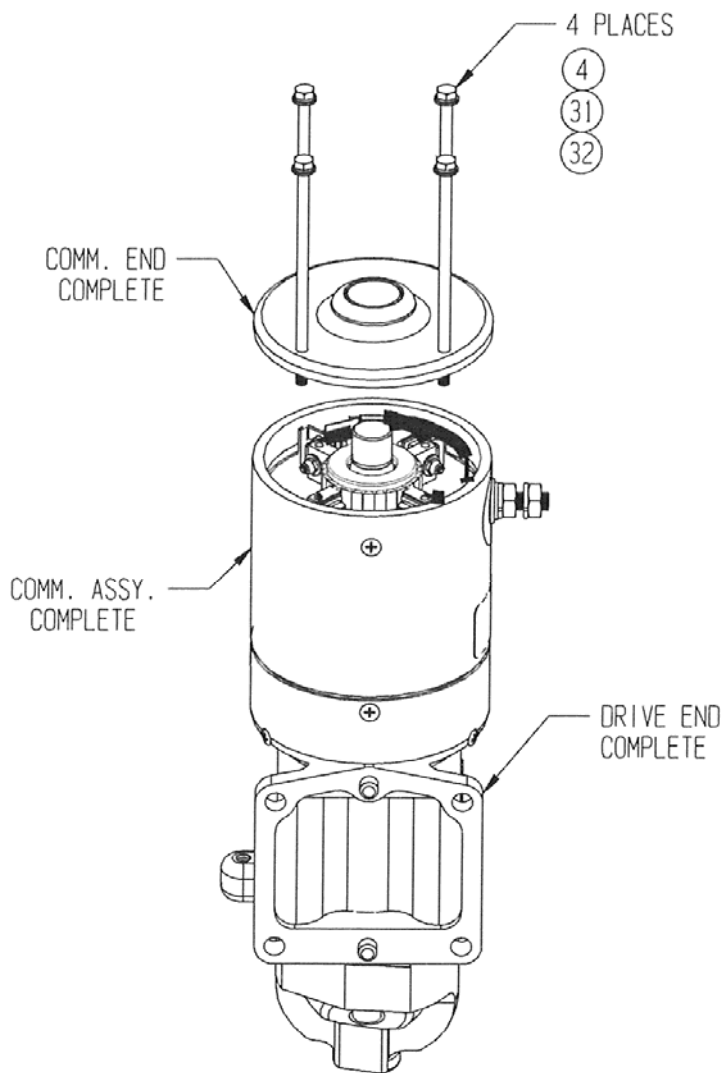

Fig. 20: Comm End installation
10) Attach comm. end assembly to motor case with four Thru-Bolts (#4), four split lock Washers (#31) and four Flat Washers (#32), (Refer to Service Inspection Limits for torque). Make sure that the brush leads are on the inside of the thru bolts and the thru bolts are next to the comm can, so there is no pinching or rubbing during operation. (see figure 20)